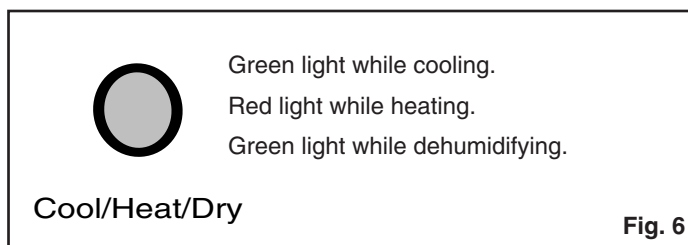

Fig. 6
**MODE Indicator Lights:** Illuminate under the different mode settings *Fig. 6*;